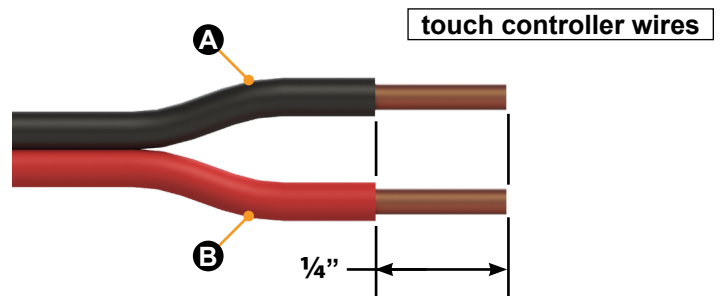

Fig.35
B. Use a wire stripper to remove 1/4" of insulation (Fig.35) from the ends of the black (-) (Fig.35A) and red (+) (Fig.35B) wires.